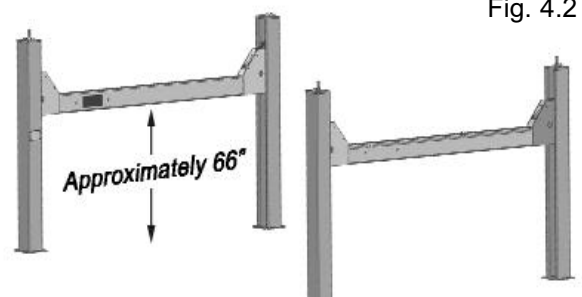

Fig. 4.2
3. The columns and cross bars will now be in position and spaced properly for the runways. Be very careful not to disturb the columns and cross tubes at this time as they may tip over causing personal injury or harm. (See Fig. 4.2 )